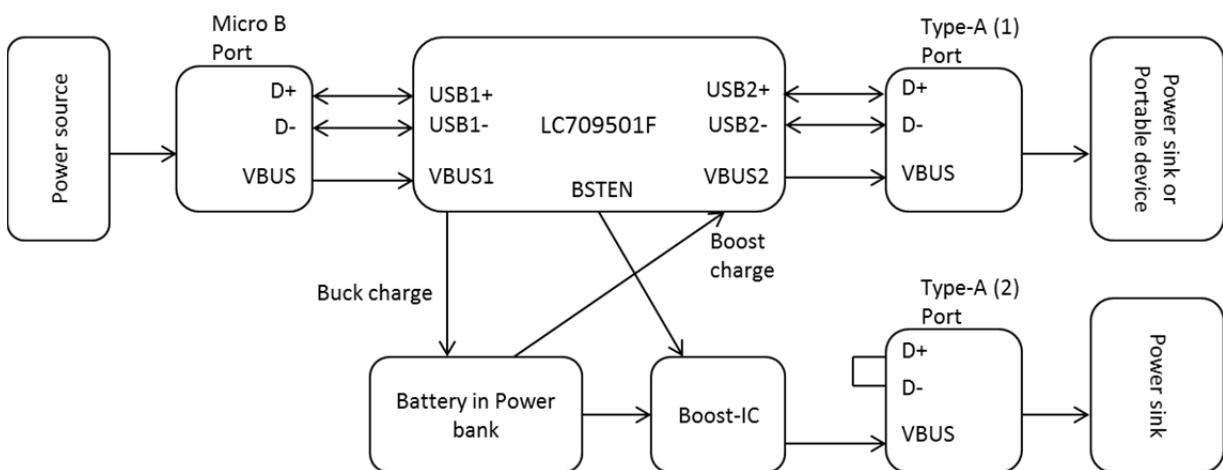

Figure 6: The function of FW01 & FW02
The Relationship between the Firmware and the USB port functions is shown in Table 4 and Figures 6, 7, and 8. USB1 \pm -port of FW01/FW02 is a power sink. This port is an input for Buck charge. And it contains functions of BC1.2 and divided mode. USB2 \pm -port is a power source. This port is an output for Boost charge. Portable device communication and Quick Charge 3.0 are only enabled in USB2 \pm -port. Another power source that is Type-A (2) is boosted by an external Boost-IC. This device runs the Boost-IC when it detects the plug insertion to Type-A (2).